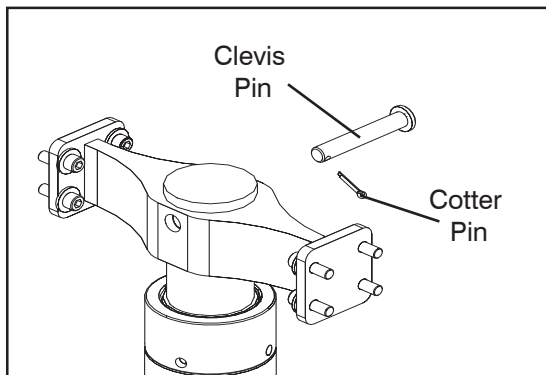

Figure 5-36. Lift Cylinder End Installation Procedure
9. Install the clevis pin and the cotter pin at the top of mast 2. See Figure 5-36.